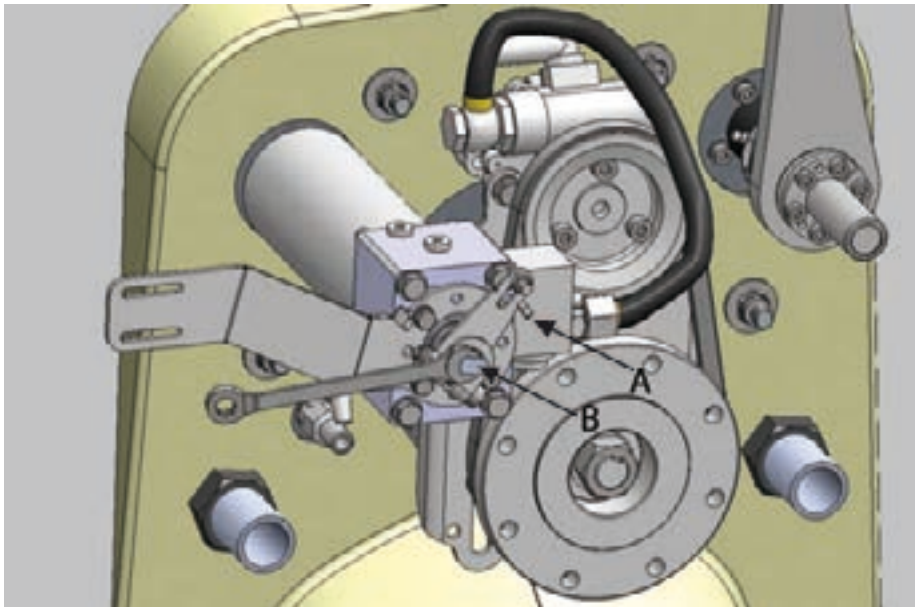

Figure 49. Operating shaft and limiter
3. Place the lever against the limiter on the shaft (figure 49, point A).
5. Using a wrench, turn the operating shaft (figure 49, point B) 13 mm (0.4") clockwise so that the reversing deflector is down, blocking the jet flow.